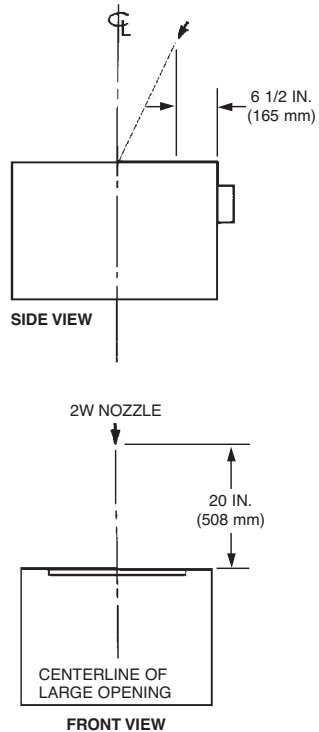
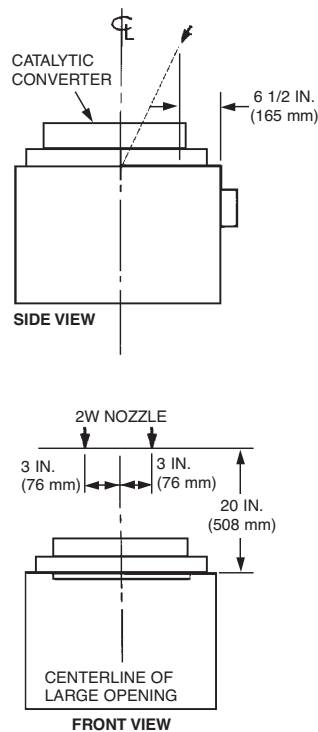

FIGURE 81a
FIGURE 81b
- **Nozzle Quantity/Type:** (1) One 2W nozzle, Part No. 419337.
- **Nozzle Height:** 20 in. (508 mm) above top of appliance. See Figure 81a.
- **Nozzle Location:** 6 1/2 in. (165 mm) back from front edge of appliance. See Figure 81a.
- **Nozzle Aiming Point:** Aimed at center of opening. See Figure 81a.
- **Nozzle Quantity/Type:** (2) Two 2W nozzles, Part No. 419337.
- **Nozzle Height:** 20 in. (508 mm) above top of appliance. See Figure 81b.
- **Nozzle Location:** 6 1/2 in. (165 mm) back from front edge of appliance. See Figure 81b.
- **Nozzle Aiming Point:** Aimed at center of opening. See Figure 81b – Side View.
- **Nozzle Aiming Point:** Aimed at point 3 in. (76 mm) each side of center. See Figure 81b – Front View.